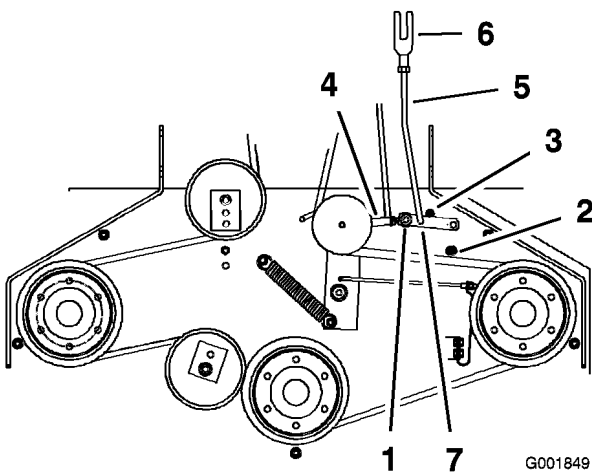

Figure 52
5. Make sure the assist arm is against the rear assist arm stop on the deck (Figure 52).
7. The assist arm should contact the front assist arm stop. If it does not contact, adjust the bellcrank so it is closer to the gusset (Figure 52).
8. To adjust the assist arm link, remove the hairpin cotter pin from the assist arm (Figure 52).
11. Install the assist arm link into the assist arm and secure it with the hairpin cotter pin (Figure 52).